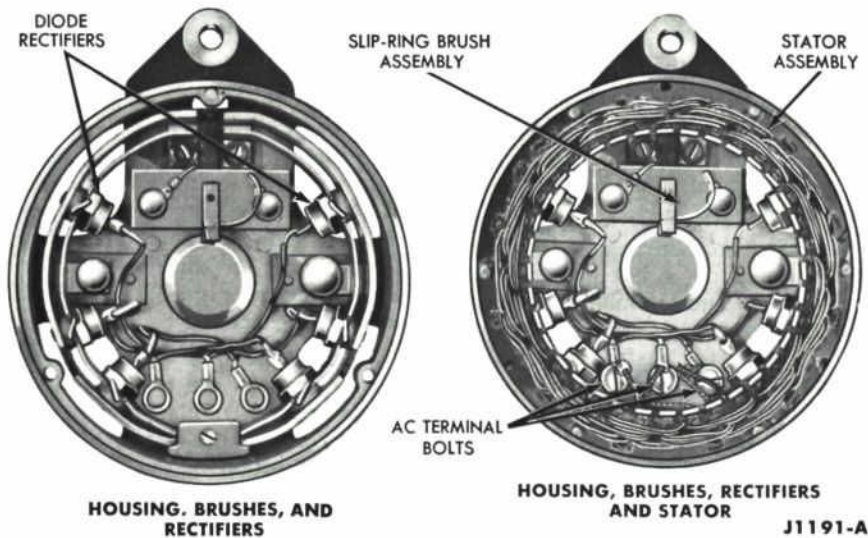

FIG. 33—60 Ampere Truck Slip-Ring End Housing, Rectifier and Stator Assembly
5. Put the rectifier insulators in position (Fig. 34). Place the rectifier assembly in the housing and install the mounting screws and terminals (Fig. 33). Make certain that the rectifier assembly is insulated from the end frame.
33), and line up the end-housing screw holes to match those in the slip-ring end-housing. Position the three stator terminals over the three rectifier terminals and install the AC terminal bolts (Fig. 33).